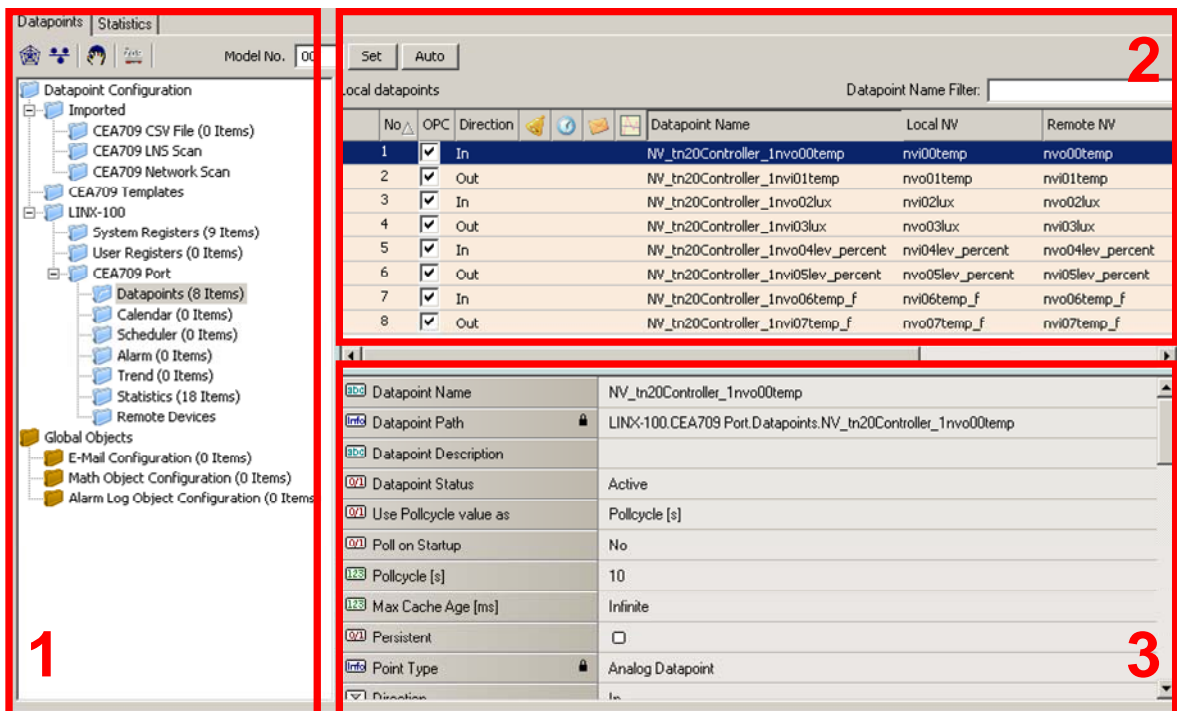

Figure 81: Datapoint Manager Dialog
The Configurator uses a central concept to manage data points. The data point manager as shown in Figure 81 is used to select, create, edit and delete data points. The dialog is divided into three sections:
- The folder list (number 1 in Figure 81),
- The data point list (number 2 in Figure 81),
- And a property view (number 3 in Figure 81).